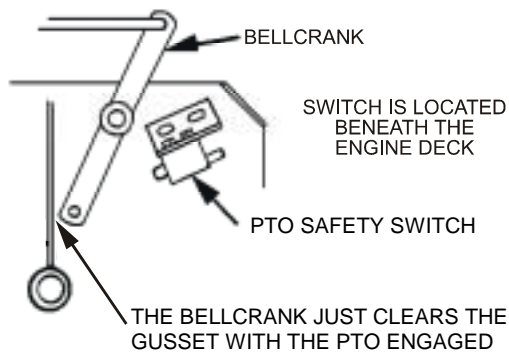
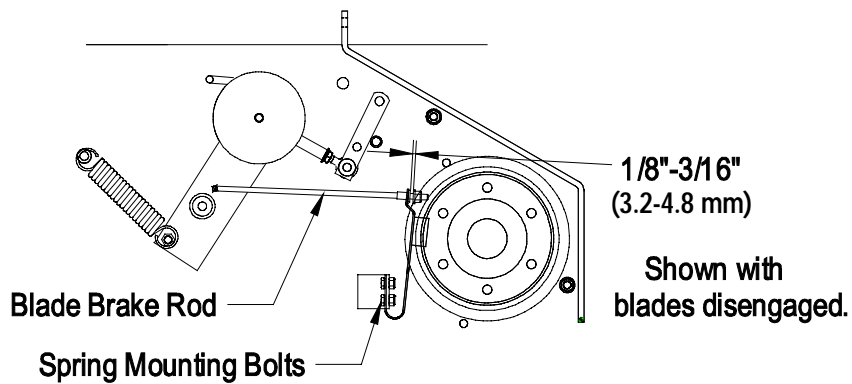

FIGURE 13
**FIGURE 14
- b) With PTO engaged (lever pulled up, adjust the linkage length to where the lower end of the bellcrank just clears the axle support gusset (See Figure 13). Make sure the assist arm is against the rear assist arm stop on the deck (See Figure 14). Push the lever down to the disengaged position. The assist arm should contact the front assist arm stop on the deck. If it does not contact, readjust so that the bellcrank is closer to the gusset.
- d) Belt must be tight enough so it does not slip during heavy loads while cutting grass. Over-tensioning will reduce belt and spindle bearing life. To adjust belt tension, loosen the 5/16" whizlock nut on turnbuckle and rotate the turn buckle; rotate turnbuckle toward rear of mower to tighten, and toward front of mower to loosen belt tension (See Figure 14).
For 48" Decks: If there is no adjustment left in the turnbuckle and the belt is still loose, the rear idler pulley can be repositioned in the front hole (See Figure 14). The belt guide located next to the pulley must also be repositioned in the front hole when the pulley is moved. The turnbuckle will need to be readjusted.
- e) Proper belt tension will require about 10 lbs. (44.5 Nt.) side pull on belt, halfway between pulleys, to deflect belt 1/2" (12.7 mm). (See Figure 14, Point A).